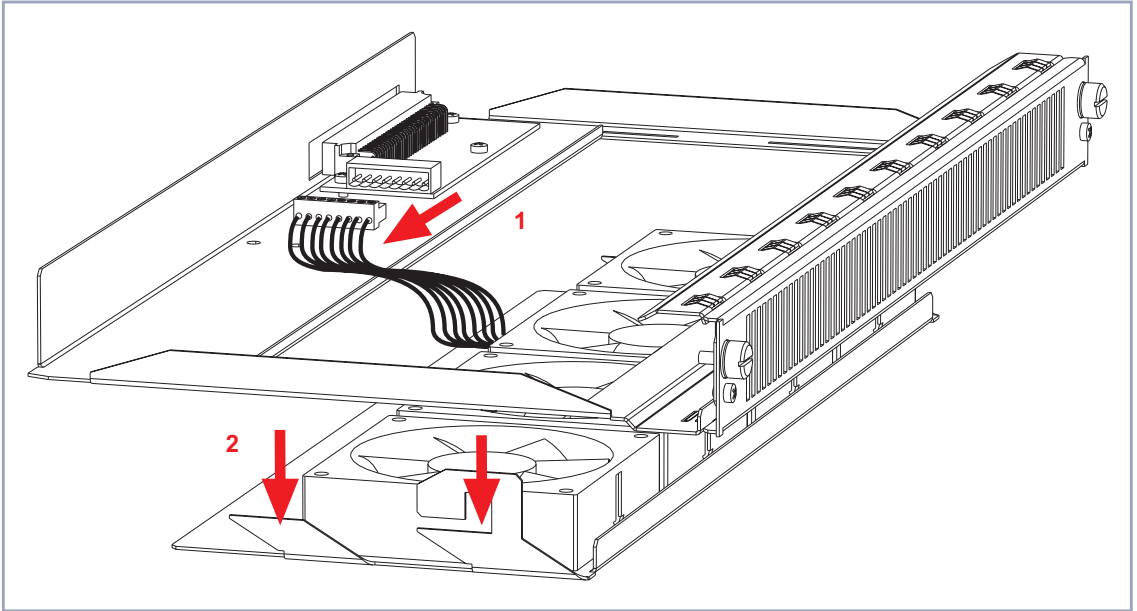

Figure 4-14: Disconnecting the fan insertion from the fan cassette
- Disconnect the fan insertion plug from the fan cassette as shown in figure 4-14, page 51, arrow no. 1.
- Draw out the fan insertion from the fan cassette as shown in figure 4-14, page 51, arrow no. 2.
- Disconnect the fan insertion switch from the fan cassette as shown in figure 4-14, page 51, arrow no. 1.